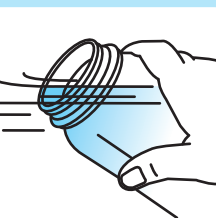

FIG. 3A
- A.** Fill container with water to be treated. (FIG.3A)